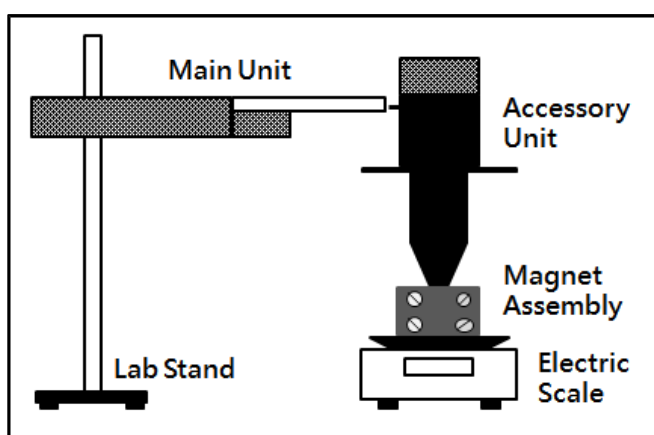

Figure 3. Schematic of experimental setup II. The total length is number of turns multiplied with 1.0 cm (length per turn).
- Begin by assembling the experiment as shown in figure3.